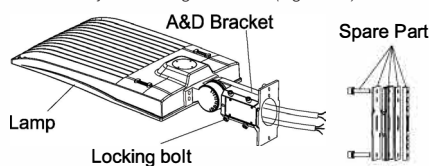

Figure 19
Step 1. Remove the spare parts from MM bracket (Figure 19)